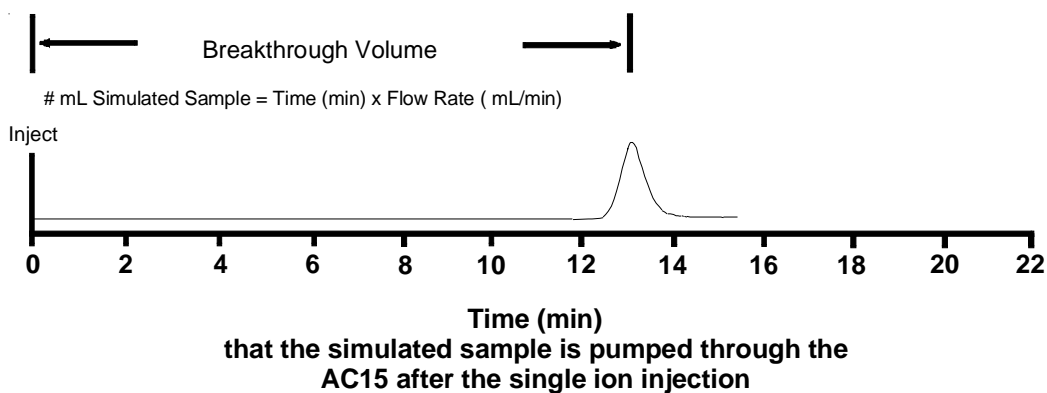

Figure 6
- E. Record the resulting chromatogram and calculate the breakthrough volume,** as shown in the example in Figure 6, “Example Determination of the Breakthrough Volume.”